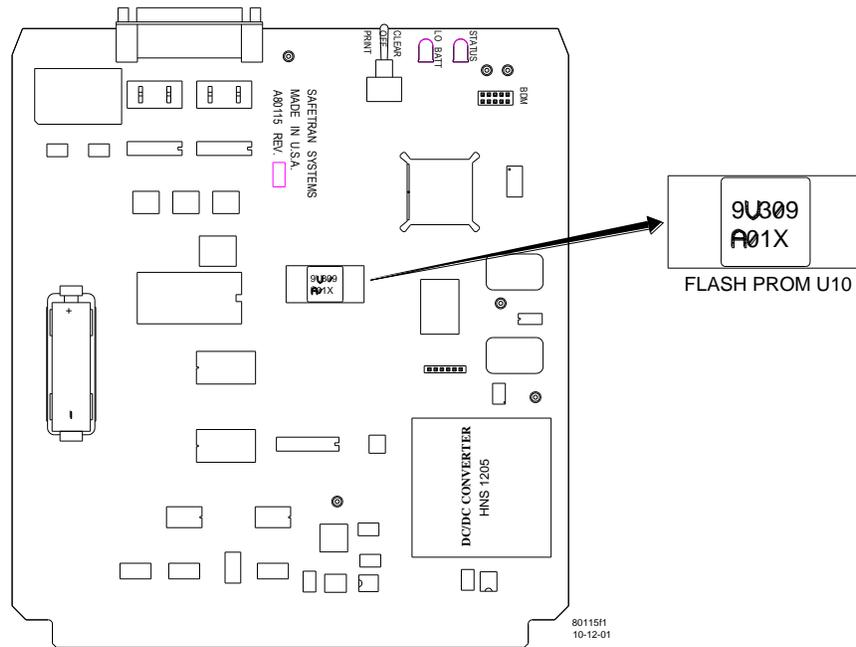

Figure 1. Flash PROM U10 Location
Step 3 Refer to figure 1 and locate flash PROM U10 (9V309).
Step 17 Refer to figure 1 and locate flash PROM U10 (9V309).
Step 18 Affix a “9V309 A01E” flash PROM revision sticker to flash PROM U10 as shown in figure 1. Ensure that the new revision sticker covers the old revision sticker.